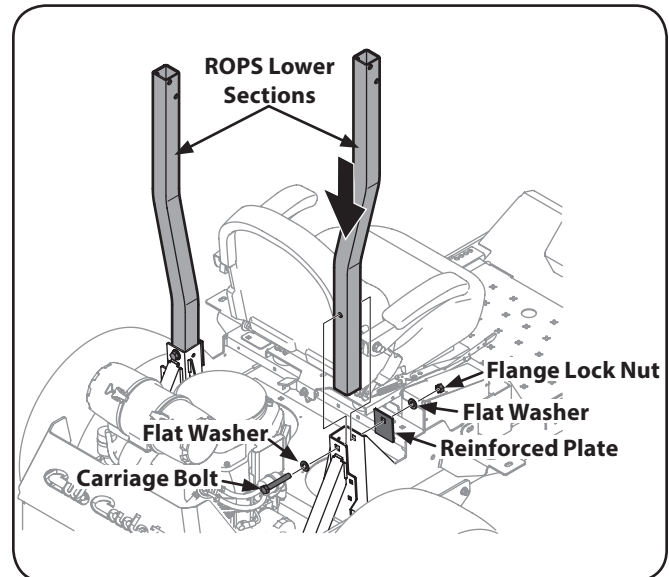

Figure 3-4
1. Insert each of the lower section ROPS tubular posts into the brackets welded to the tractor main frame. See Figure 3-4.
2. Insert the hex screws (one per side) through the flat washer then into the frame brackets and ROPS posts from the rear toward the front. See Figure 3-4. Alternately from the front toward the rear if access is restricted.
3. Install the reinforced plates and flange lock nuts, but do not tighten. See Figure 3-4.
6. Tighten the frame mounting hardware to 80-90 lb.-ft. torque. See Figure 3-4.